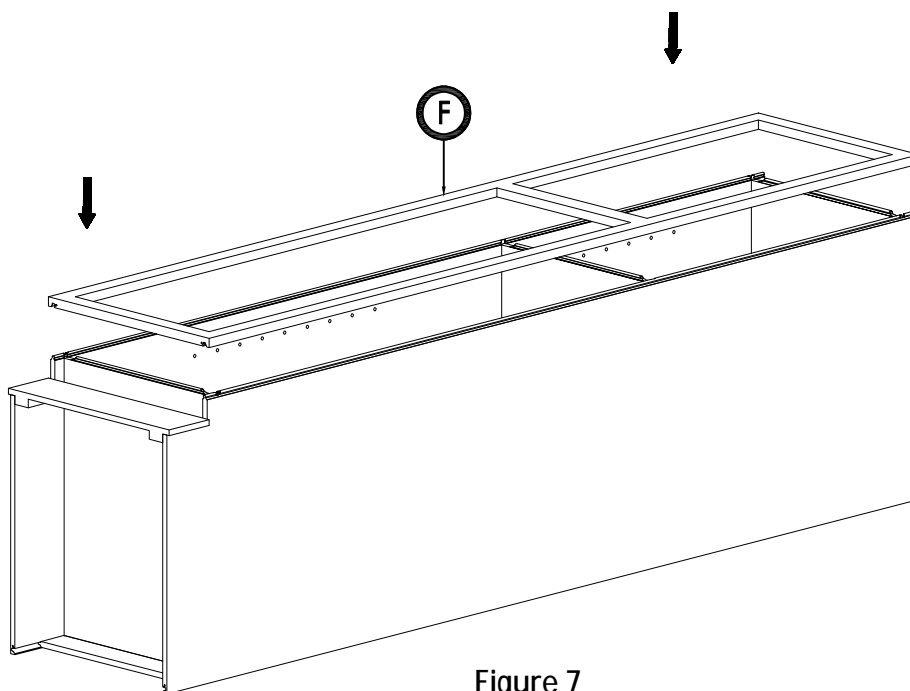

Figure 7
8. Assemble 12 hinges into three doors by screwdriver and 14 screw 7/15" (Figure 7)